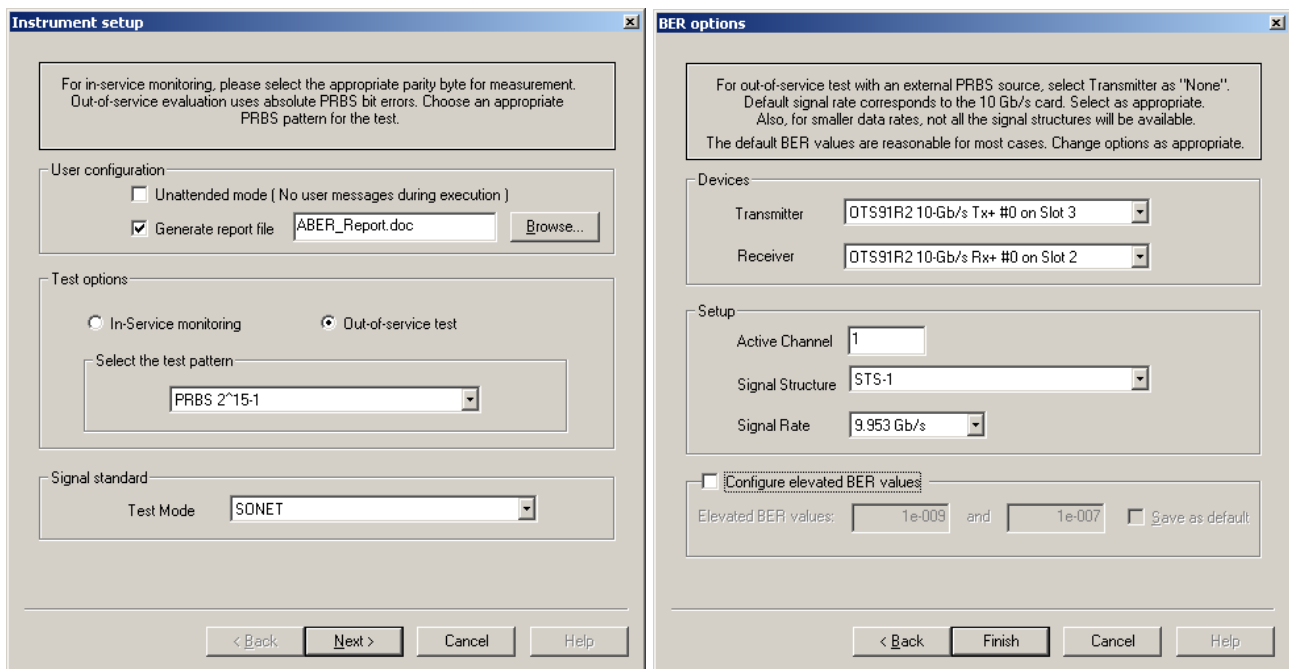

Figure 2-20: Instrument setup dialog box
3. The Instrument setup dialog box is now displayed, as shown in Figure 2-20. Fill out the required information and click next to continue to the next page.
4. The second page of instrument setup information is now displayed, as shown in Figure 2-20. Complete the form and click Finish.